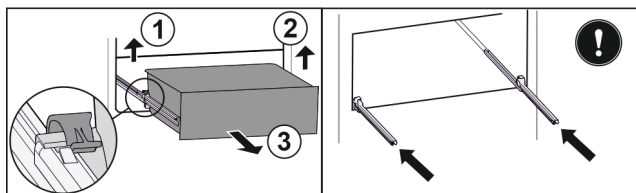

Fig. 119
- Lift left clamp and simultaneously pull drawer forwards on the left. *Fig. 119 (1)*
- Lift right clamp and simultaneously pull drawer forwards on the right. *Fig. 119 (2)*
- Remove drawer to the front. *Fig. 119 (3)*